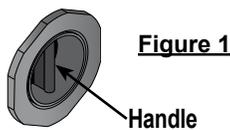
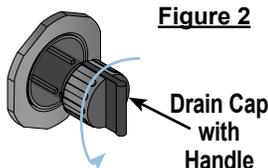
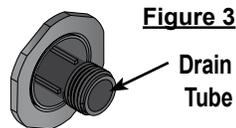

Figure 1
Figure 2
Figure 3
2. Locate the main drain valve (bottom front) for the spa. Pull on handle (Figure 1, pliers may be used to pull handle) until you reach the mid position then rotate handle slightly to fully extended drain tube (drain cap and 2.5 cm (1") of the drain tube is exposed) (Figure 2) then remove the drain cap (Figure 3).
5. Pull and remove garden hose, replace drain cap and push drain tube back into spa as seen in Figure 1.